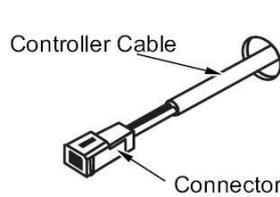

Fig. 2
3. Run the cable provided through the hole in the wall ensuring that the end fitted with the connector is nearest the controller (Fig.2).
5. Attach pressure gauge to burner test point (Fig. 2).